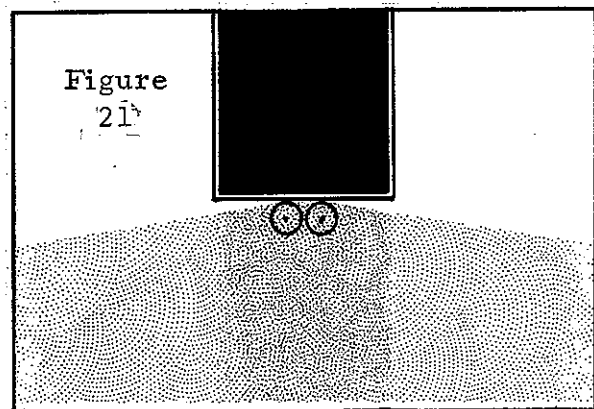

Figure 21
Pattern: (Figure 21)
Adjust Material Divider per (C) above first. Then adjusting the divider to a wider position (moving back plate rearward) will throw material to the outside of the pattern. Adjusting to a narrower position (moving back plate forward) will throw it to the center. See Figures 21 and 22.